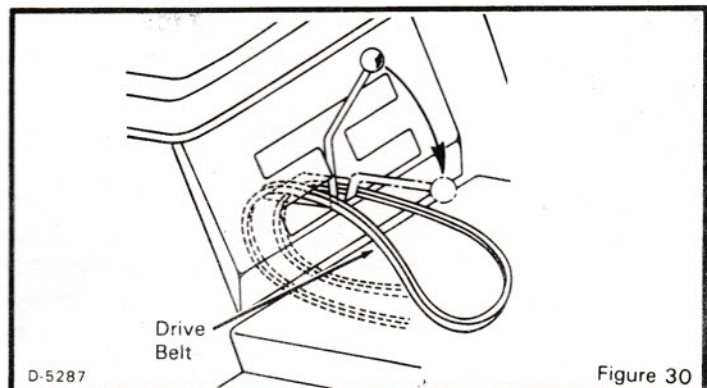

Figure 30
- Guide belt around gear shift lever (see figure 30) and attach to stack pulley first and then drive pulley.